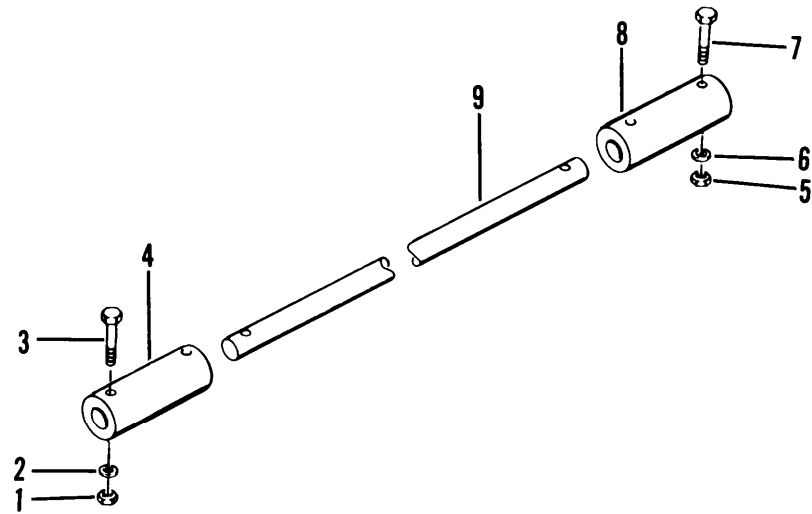

Figure 4-55. Couplings and Drive Shaft
- (1) Remove nut (1, fig. 4-55), washer (2) and bolt (3) from coupling (4).
(1) Remove nut (5, fig. 4-55), washer (6) and bolt (7) from coupling (8).
(2) Remove drive shaft (9).
- (1) Install drive shaft (9, fig. 4-55).
- (3) Install bolt (3, fig. 4-55), washer (2) and nut (1) on coupling (4).